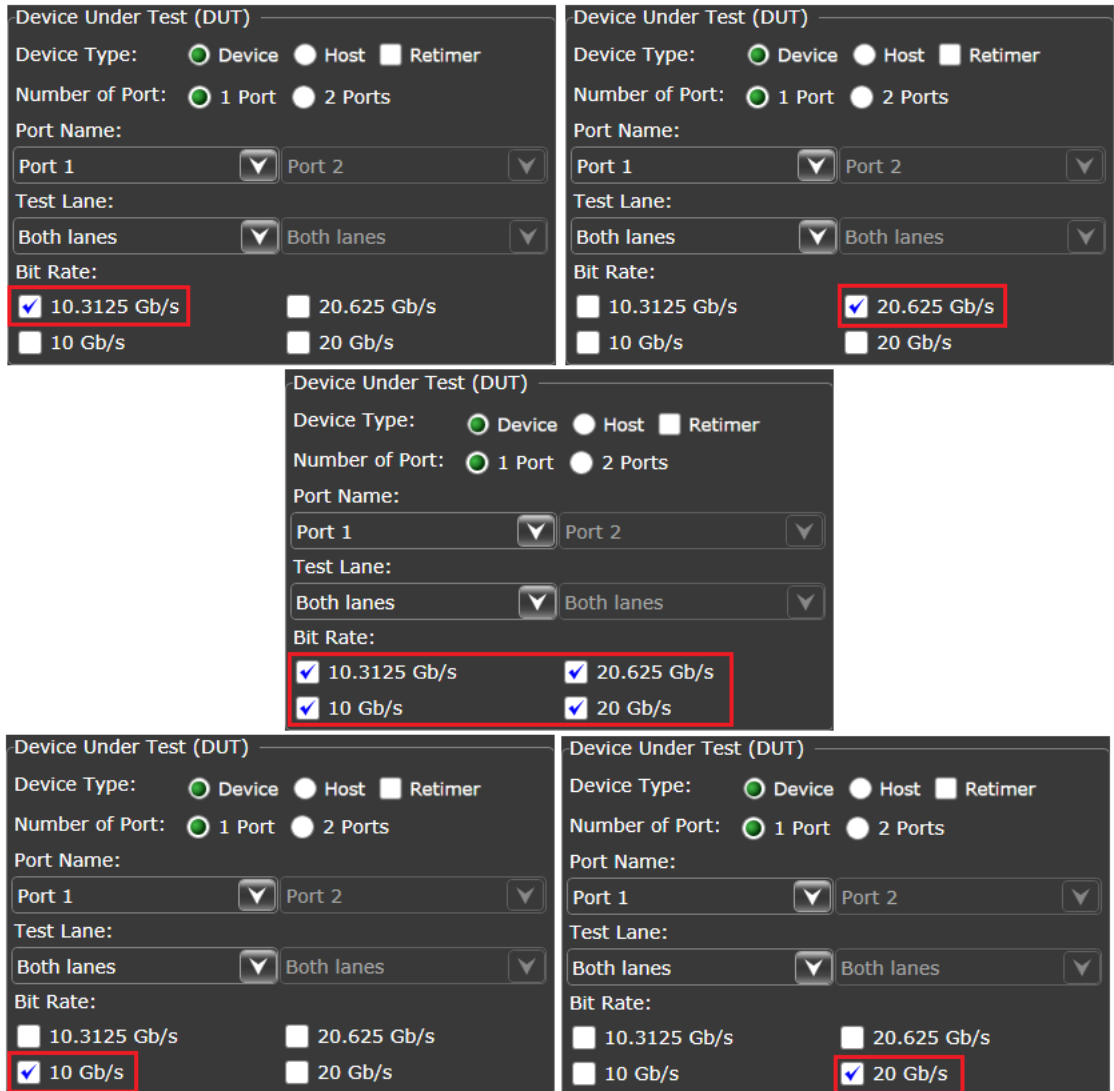

Figure 7 Set Up options for DUT Type “Device” on a 4-Channel Oscilloscope
- 2 Under the **Set Up** tab, select the following options, as shown in Figure 7.